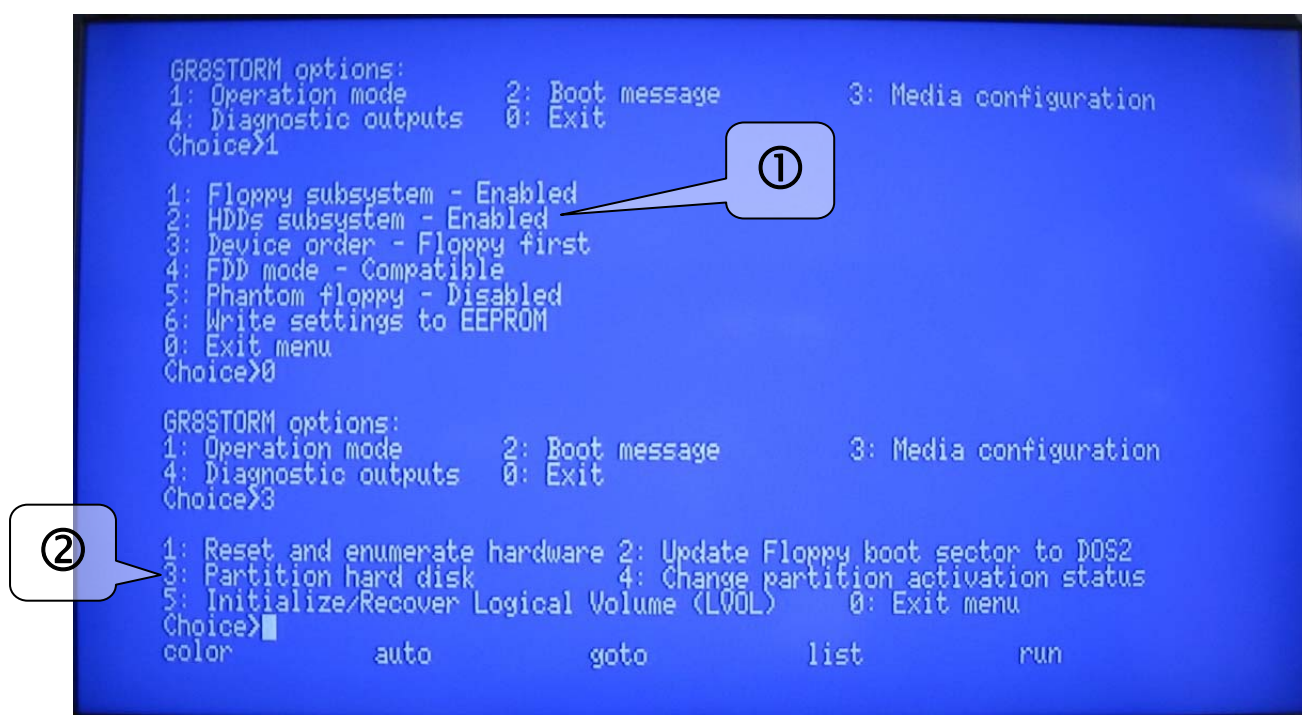

Figure 5.5. Start of GR8STORM dialogue
Invoke GR8STORM using "call gr8storm" BASIC command or holding CTRL+GRAPH during storage subsystem initialization. Fig. 5.5 shows start of the dialogue; first ensure that hard disk subsystem is enabled (1) and then follow to the "Partition hard disk" menu (2).